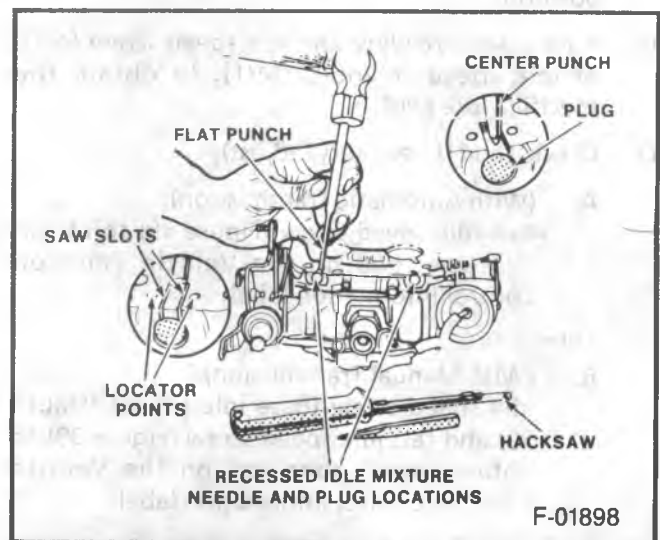

Figure 40 - Removing Idle Mixture Needle Plugs
5. Remove idle mixture needle plugs (Figure 40):